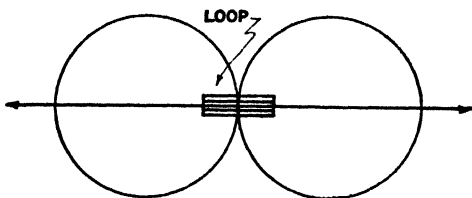

FIG. 6-3.—Directional pattern of a loop antenna.
*Ans.* Figure 6-3 illustrates the directional pattern of a loop antenna.